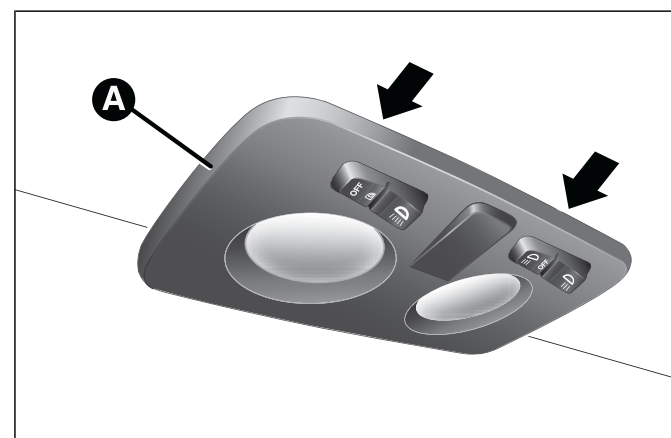
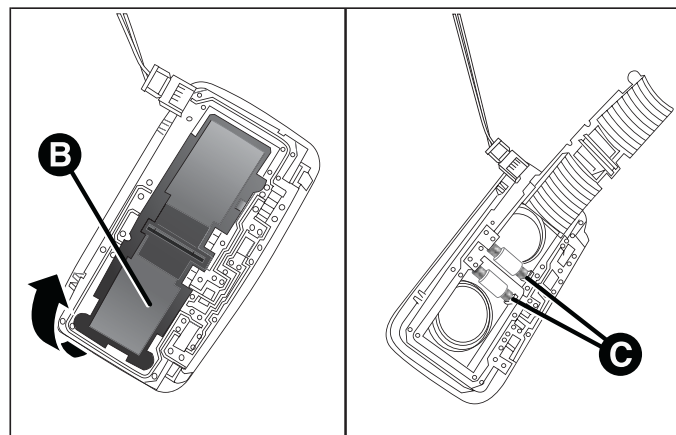

fig. 137
fig. 138
- ☐ remove the roof light A fig. 137 working at the points indicated by the arrows;
- ❑ open the flap B fig. 138 and replace the bulbs C releasing them from the side contacts. Make sure that the new bulbs are correctly secured between the contacts;
- ❑ reclose the flap B fig. 138 and fix the roof light A fig. 137 in its housing making sure that it is locked.